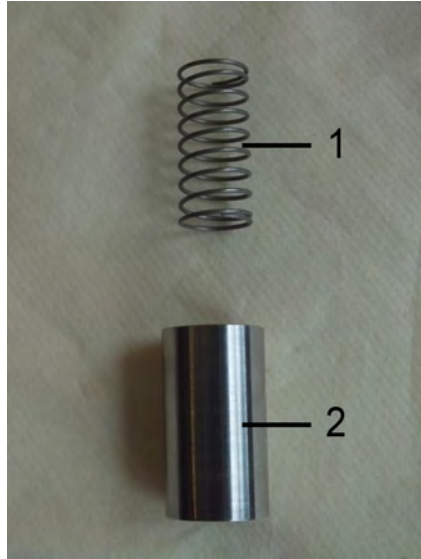

Fig. 38: Spring and float
5. ➤ The inner parts of the flow monitor consist of the spring (Fig. 38/1) and float (Fig. 38/2).